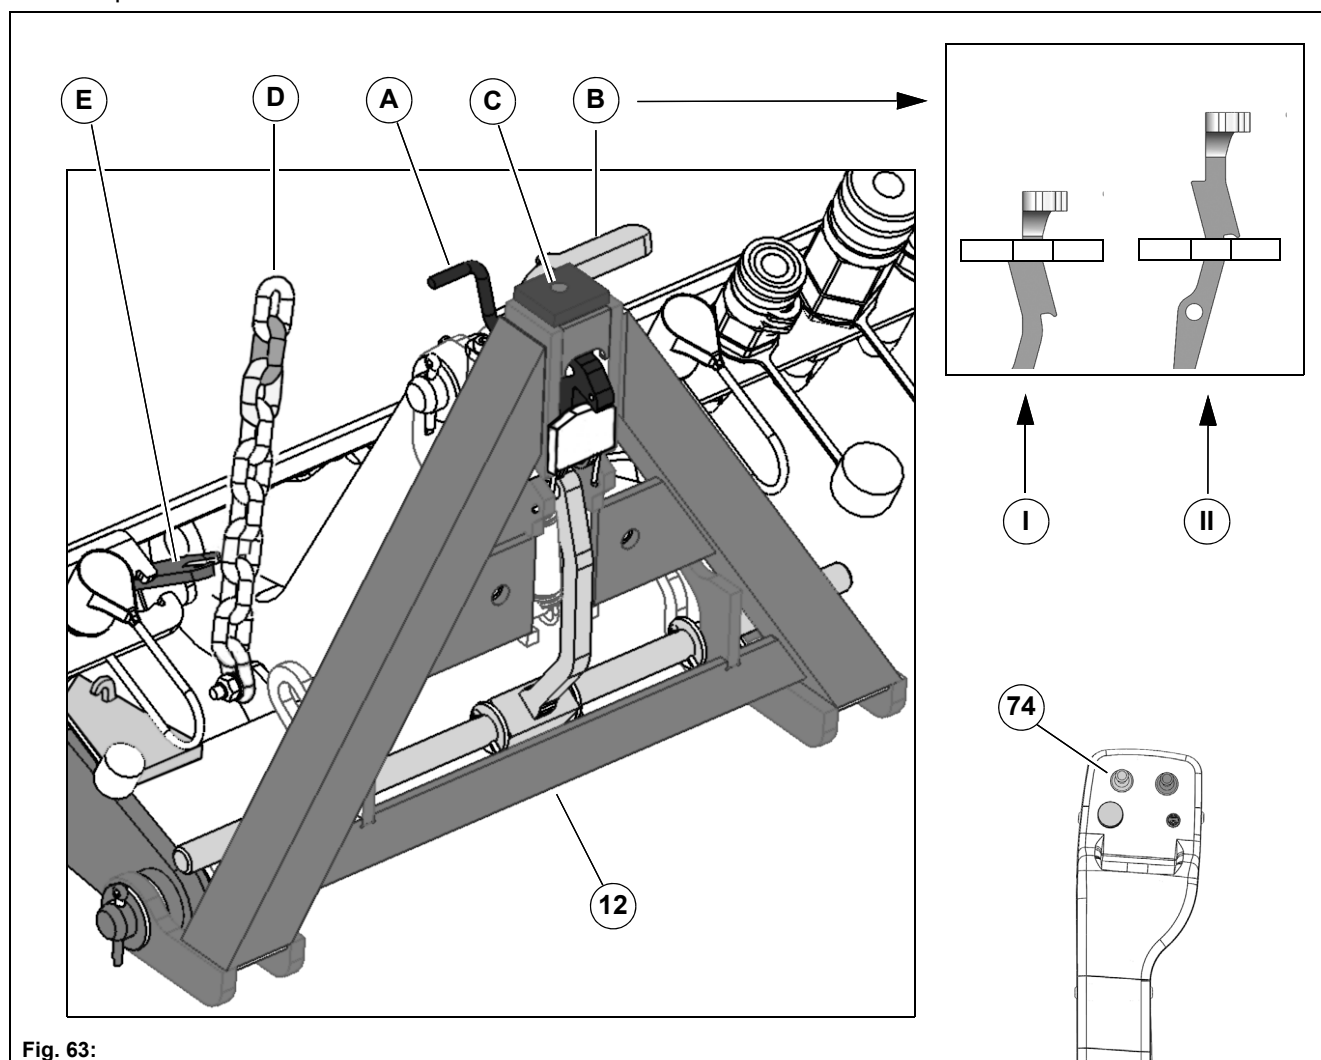

Fig. 63:
Risk of accident! Front attachments not correctly fastened to the front tool carrier can drop down while driving. Always secure the front attachment with the locking devices **Fig. 63-A and B**. Always secure non-Hako tools with the locking device **Fig. 63-C**.
- 2 Bring the locking hook **Fig. 63-A** into the rear position and the lever **Fig. 63-B** into the upper position (II). Remove the chain **Fig. 63-D** and hook it onto the hook **Fig. 63-E**.